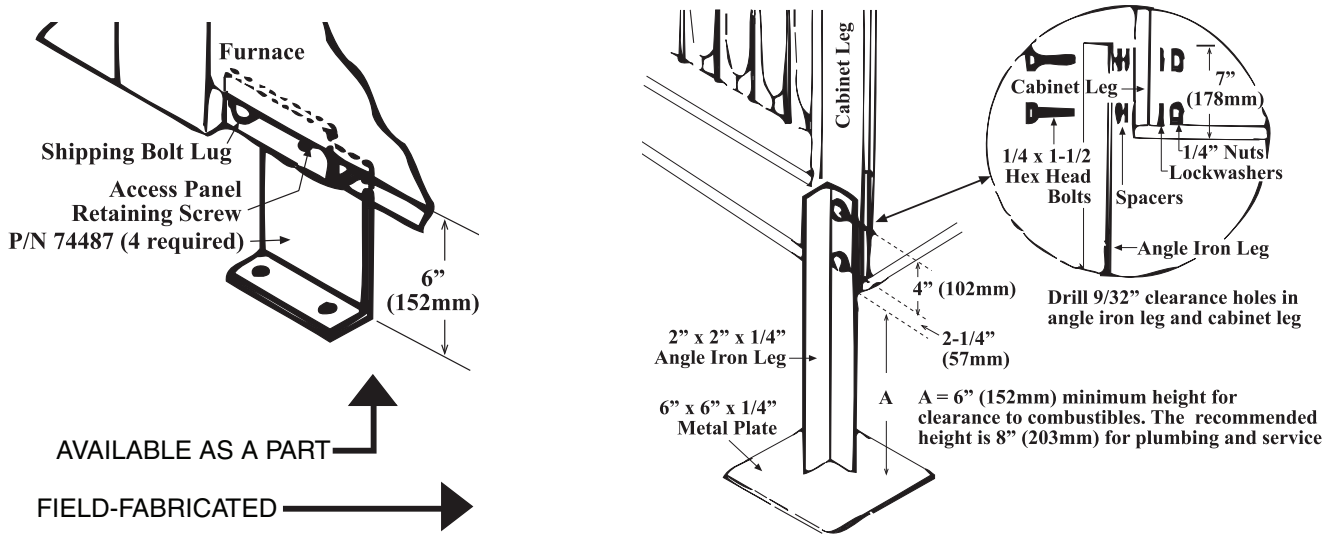

Figure 4. Corner Mounting Supports
- Supports (PN 74487) available from the manufacturer or field-fabricated legs, as shown in **Figure 4**, may be used at the four corner support locations. Do not use this type of support at the center support locations between the furnace and the blower section. At the center locations, a field-fabricated angle-iron brace support must extend horizontally, jointly supporting a portion of both the furnace and the blower cabinet. All supports must be noncombustible.